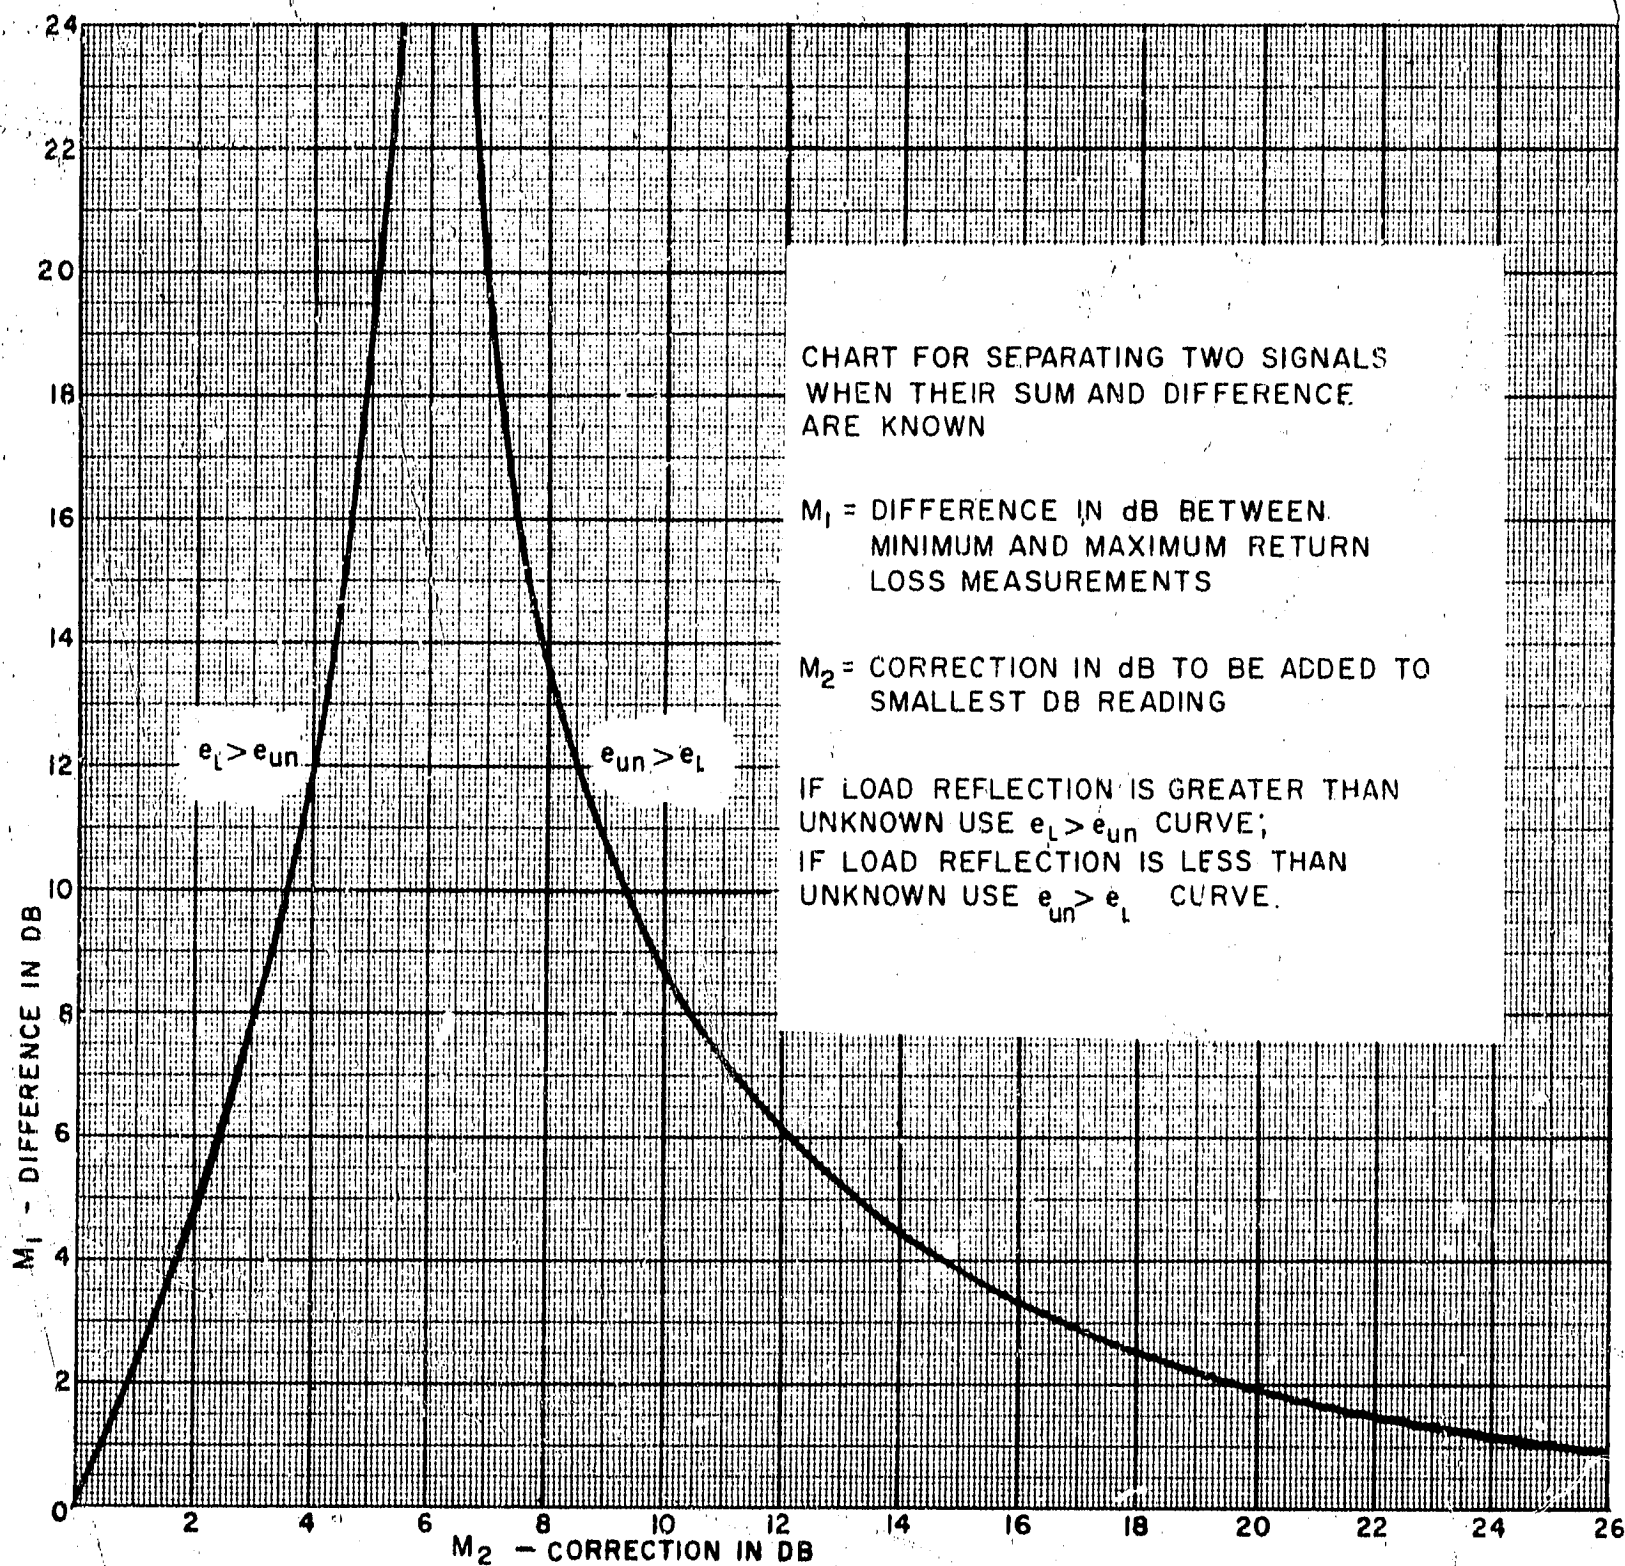

Figure 13. Signal Separation Chart
- i. Refer to Figure 13. Determine values for M_2 which are the two correction factors to be used. Add the minimum reading of step h to each correction (M_2). For example, if the difference in dB (M_1) is 4.9 dB, then from the graph (Figure 13) the two corrections are 2.1 and 13.3 dB. One corrected value is sliding load return loss and the other is 786D directivity, but it is impossible to distinguish which.
- (1) SWR Meter readings were 0.5 and 5.4 dB.
- (2) The attenuators used were 20 dB and 10 dB; hence, the readings indicate 30.5 and 35.4 dB.
- (3) The difference between the minimum and maximum readings is then 4.9 dB.
- (4) Referring to Figure 13, the two correction factors are 2.1 and 13.3 dB.
- (5) The minimum reading (30.5 dB) added to each results in two corrected readings: 32.6 and 43.8 dB.
- (6) To determine which reading represents the sliding load, the sliding load center conductor is partially unplugged from the 786D.
- (7) The above steps were repeated which resulted in SWR Meter indications of 25.5 and 28.0 dB. The difference between the two readings is
2.5 dB which from Figure 13 determined the two correction factors to be 1.2 and 18.0 dB.
- (8) The two correction factors added to the 25.5 dB minimum gave corrected readings of 26.7 and 43.5 dB.
- (9) The sliding load return loss was 43.5 to 43.8 dB, because making a bad connection between the sliding load and the 786D did not affect this reading much.
- (10) The 786D directivity was 32.6 dB, because making a bad connection between the sliding load and the 786D did affect this reading causing a reading which did not agree with either of the previous corrected readings.